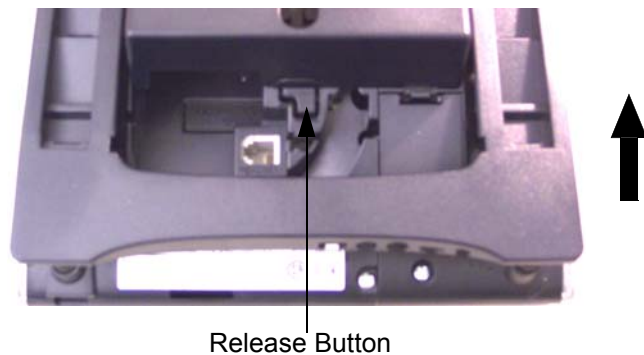

Figure 5-115 WM-L UNIT Release Button
1. To release the telephone from the WM-L UNIT, press the release button and push the telephone up (refer to Figure 5-115 WM-L UNIT Release Button).